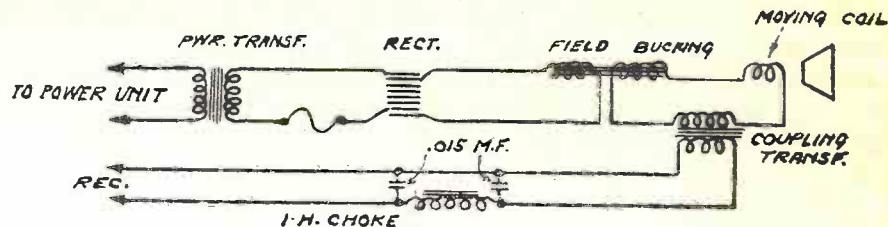

Fig. 51 - An Audio Filter for improved quality.
(13) **Audio Filters.** Some sets employ a combination of chokes and condensers to filter the audio output by making a definite predetermined frequency cut-off and an improved quality of reproduction. Fig. 51 shows the type of filter used in the Federal "Model K" receiver. It is obvious that an open choke or shorted condenser will interrupt reception, and the components of the filter should be tested separately.